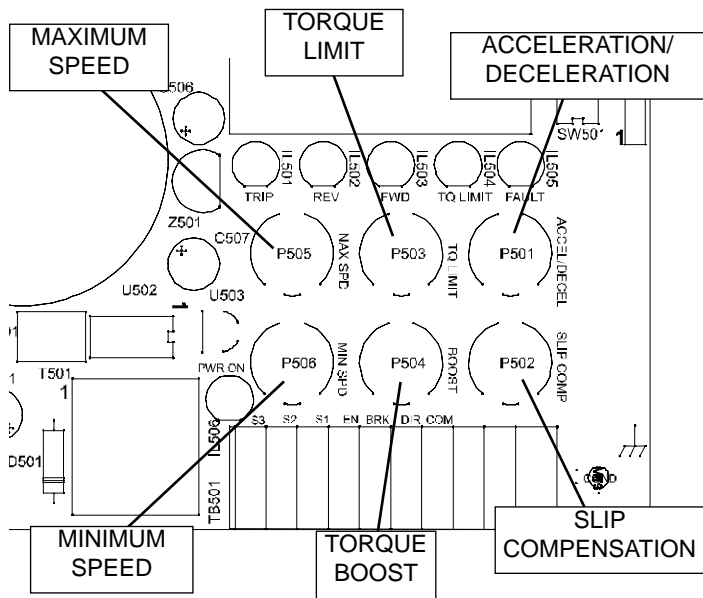

Figure 7. Calibration Trimpot Layout
MAC Series drives have six user-adjustable trimpots. Each drive is factory calibrated to its maximum horsepower rating. Readjust the calibration trimpot settings to accommodate lower horsepower motors. See Figure 7 for trimpot location.
4. Set the TQ BOOST trimpot (Figure 7, pg 17) to the 12 o'clock position.